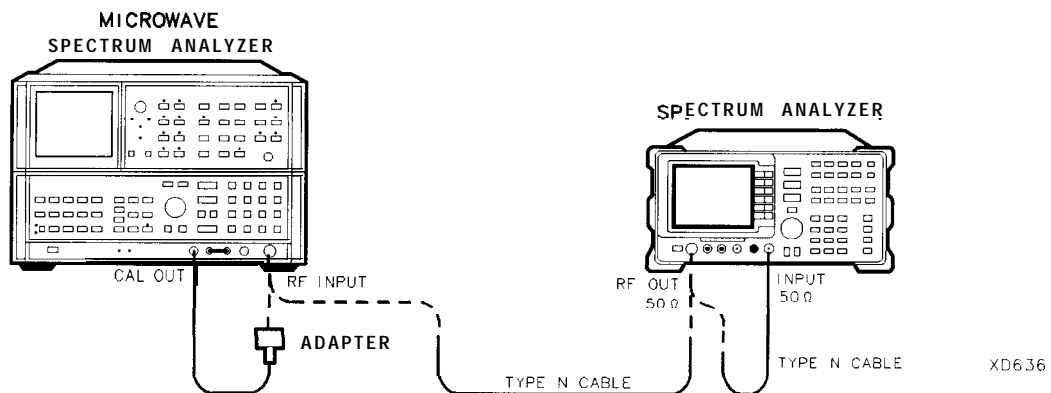

Figure 2-100. LO Feedthrough Amplitude Test Setup
2. Connect the Type N cable between the RF OUT 50  $\Omega$  and INPUT 50  $\Omega$  connectors on the spectrum analyzer. See Figure 2-100.
6. Connect the Type N cable from the tracking generator output to the microwave spectrum analyzer RF INPUT. See Figure 2-100.